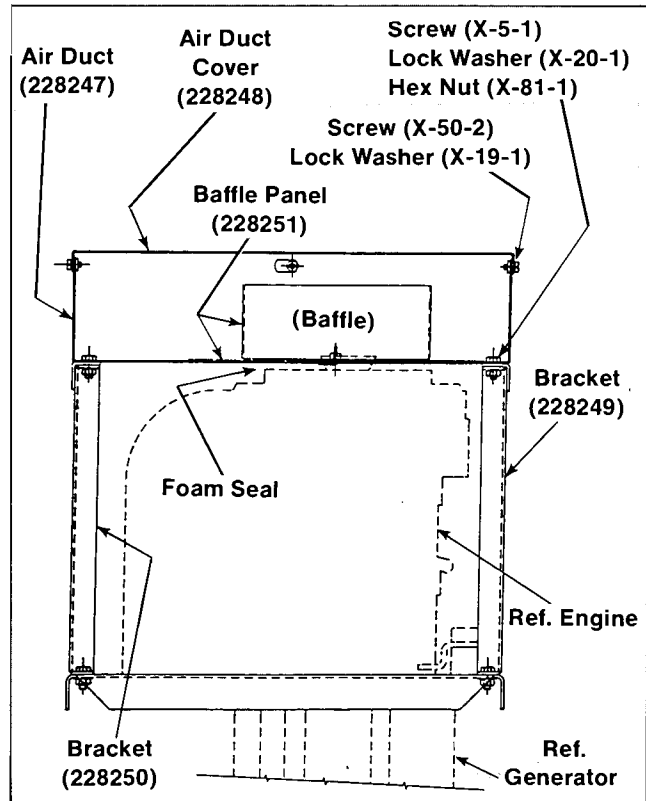

Figure 36. Air Duct Cover
- Position air duct cover (228248) on air duct assembly. See Figure 36. Align holes in cover with holes in air duct assembly and secure with seven screws (X-50-2) and lock washers (X-19-1).